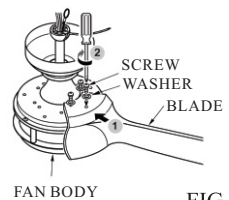

FIG.3
1. Attach each blade assembly to the fan body using the blade screws. Tighten them securely (see Fig.3)